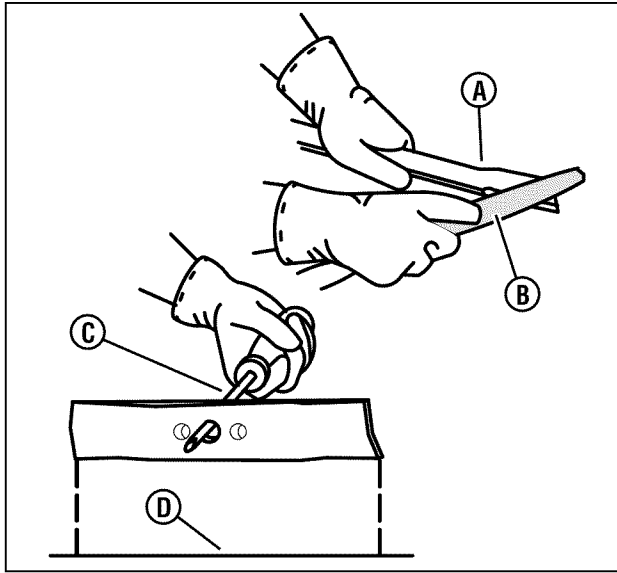

Figure 25: Sharpening the blade
4. Sharpen the blade (**A, Figure 25, next page**) with a file (**B**). Make sure you keep the original beveled cutting edge.